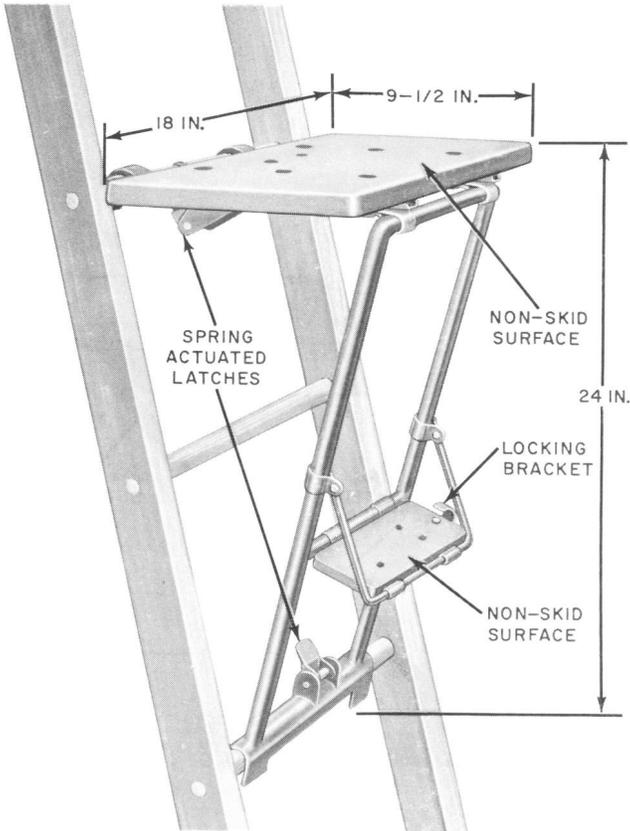

Fig. 2—D Ladder Platform
2.02 The D Ladder Platform (Fig. 2) differs from the C Ladder Platform in that it is equipped with a footrest hinged to a middle crossmember of the frame. When not in use, the footrest may be secured flat on the frame by sliding the footrest supports upward along the frame. It is held in this position by means of a locking bracket. ♦The upper surfaces of the seat and of the footrest have